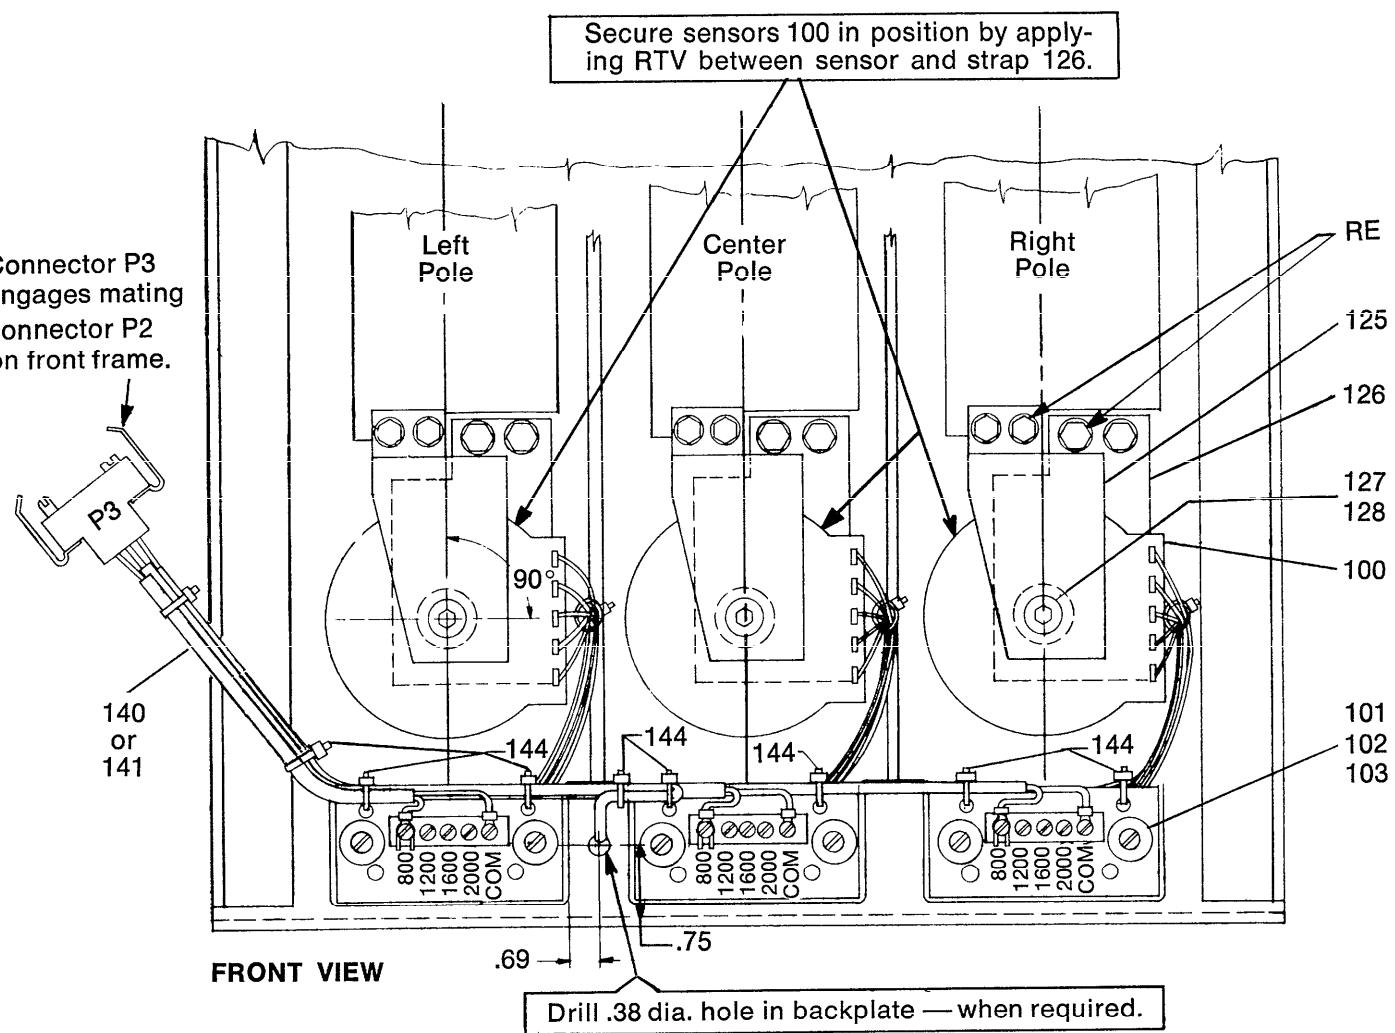

Fig. 12 — Converted back frame showing SST sensors, terminal boards and harness.
- Install the back frame wire harness (part 140 or 141) per view B of connection diagram Fig. 16, 19 or 21, whichever applies; position each tap lead (black) on the ampere rating selected. Form and tie per Figs. 12 and 13.